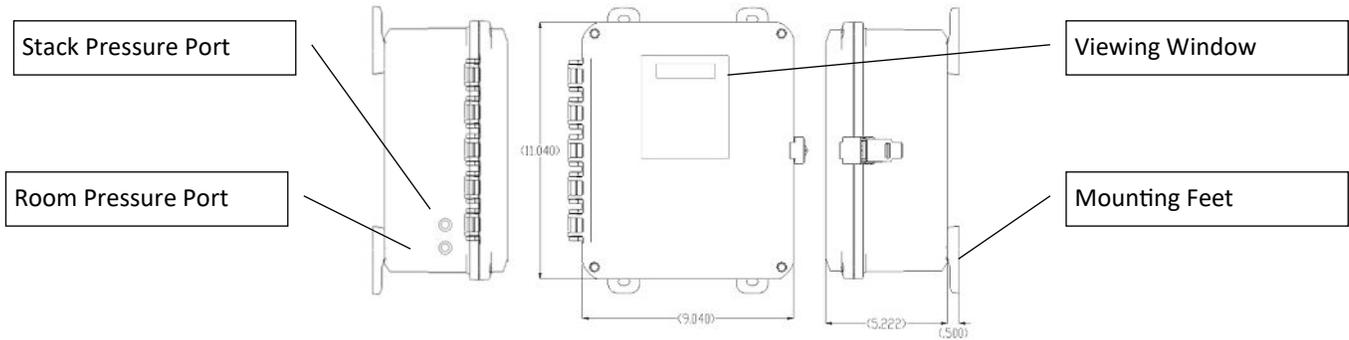

FIGURE 25
- When possible, a single “accessible” location is preferred for access to the Meridian control panel as well as the gas valve control box (E-VK (N/P) for the Isoflames linear burner. With mounting feet installed the Meridian Control Panel measures approximately 9-1/2” (W) x 12” (T) as shown in **(Figure 25)**. The gas valve control valve box measures approximately 12” (W) x 12” (T) x 4” (D). The gas valve control box installation will be covered in section “Gas Line & Valve Box Installation”.